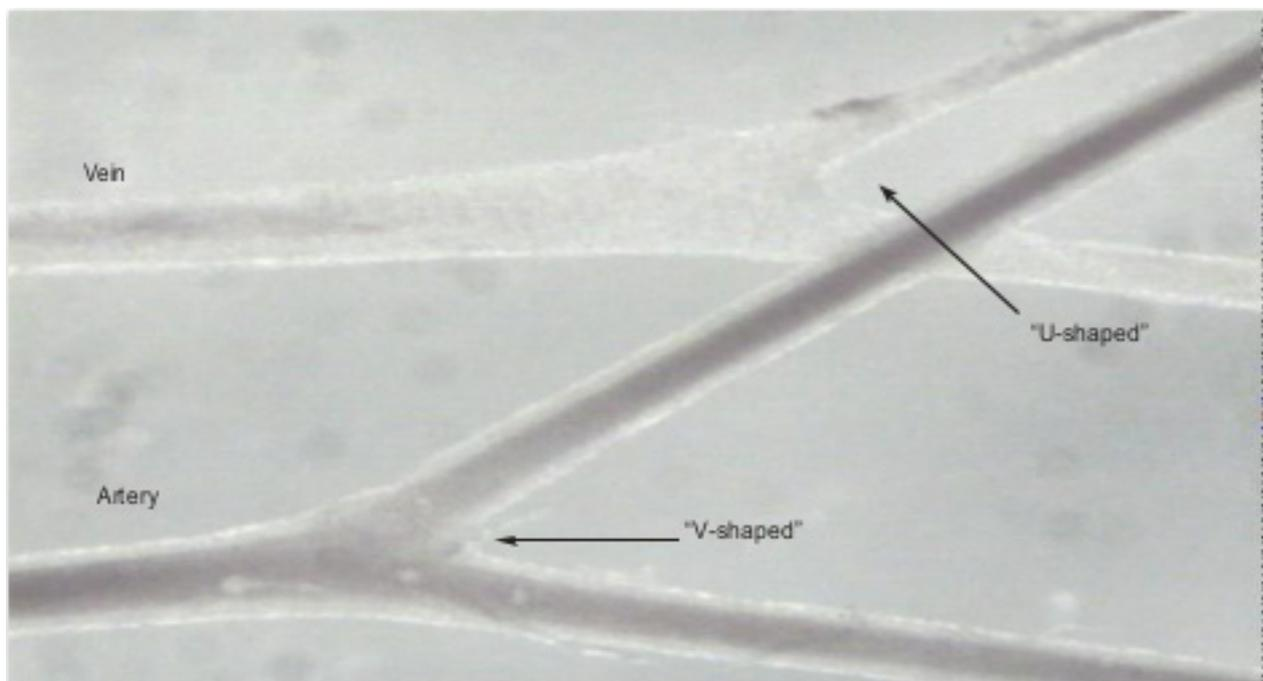

Figure 5.3 Distinguishing between artery and vein
7. Dissect away as much adipose tissue as needed around the vessels to distinguish between the artery and vein. The artery can easily be identified by the following characteristics (Fig 5.3):